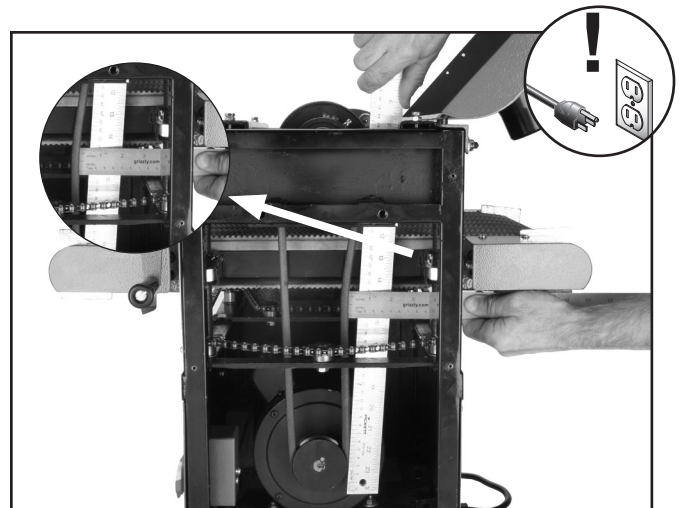

Figure 24. Checking V-belt tension with a straightedge and a ruler.
2. Using a straightedge and ruler (**Figure 24**), push on the middle of the V-belt. The correct V-belt tension is achieved when the V-belt can be deflected $\frac{1}{2}$ "– $\frac{3}{4}$ " with moderate pressure.